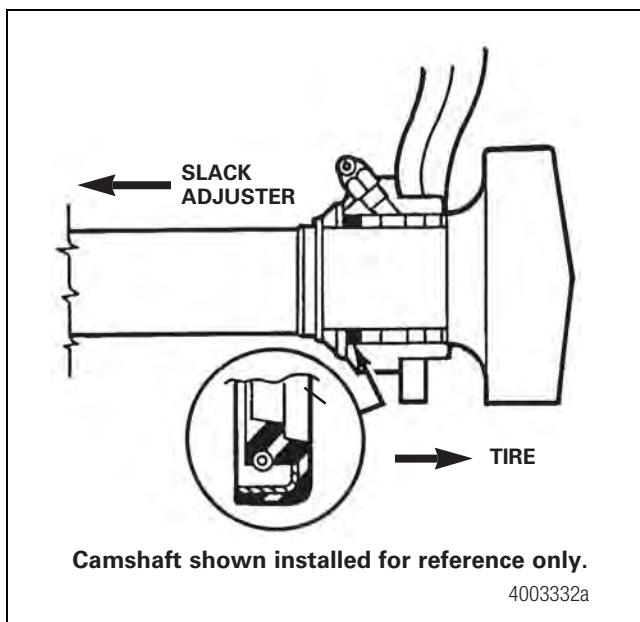

Figure 11.35
- A. For plastic bushings, install one grease seal. Verify that the seal lip faces toward the slack adjuster and that the seal body is pressed against the steel sleeve. Figure 11.35.